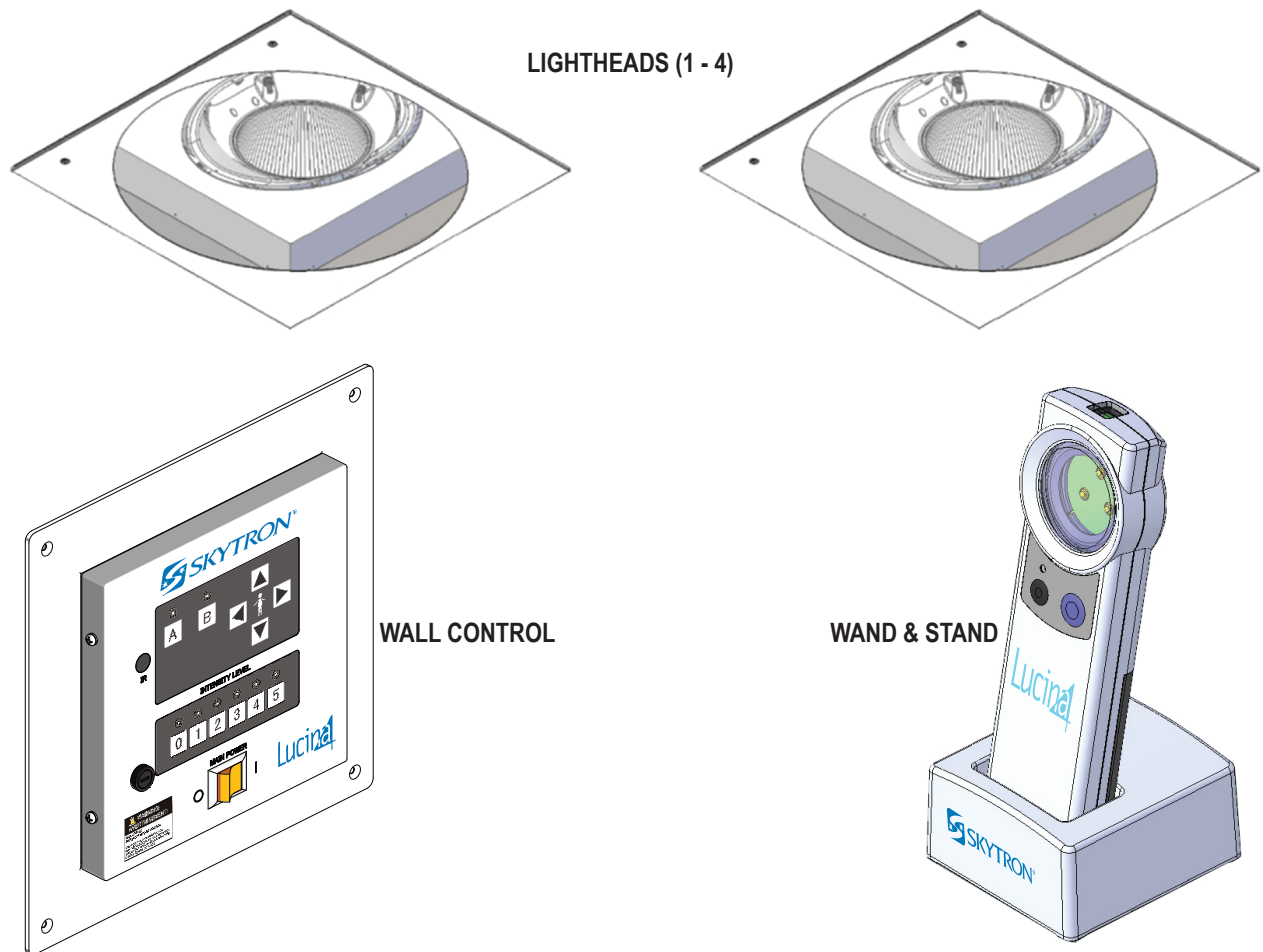

Figure 1. Light Fixture Components
The SKYTRON Lucina 4 examination lighting system consists of between one (1) and four (4) recessed, ceiling mounted LED lighthead, a wall control, and a control wand (Figure 1).